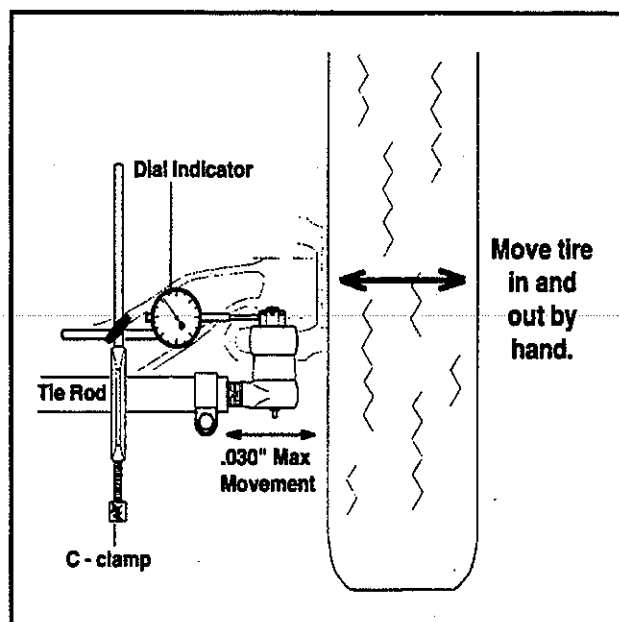

Figure 20—Set Up Dial Indicator
1. Wipe the seal clean carefully and examine for splits or tears that allow contaminants into the socket. (See Figure 20—Set Up Dial Indicator.) If the seal is acceptable, shake the tie rod assembly by hand only.
If looseness is detected, set up a dial indicator. (See Figure 20—Set Up Dial Indicator.)